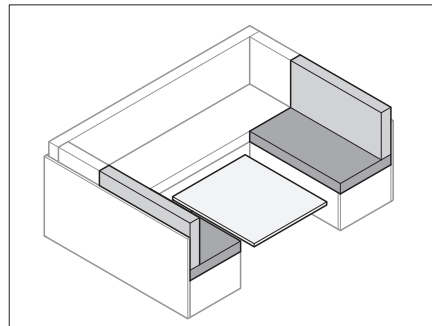

Fig. 72 Converting the table
- Convert the table (Fig. 72) into a bed foundation (see Section 7.7).